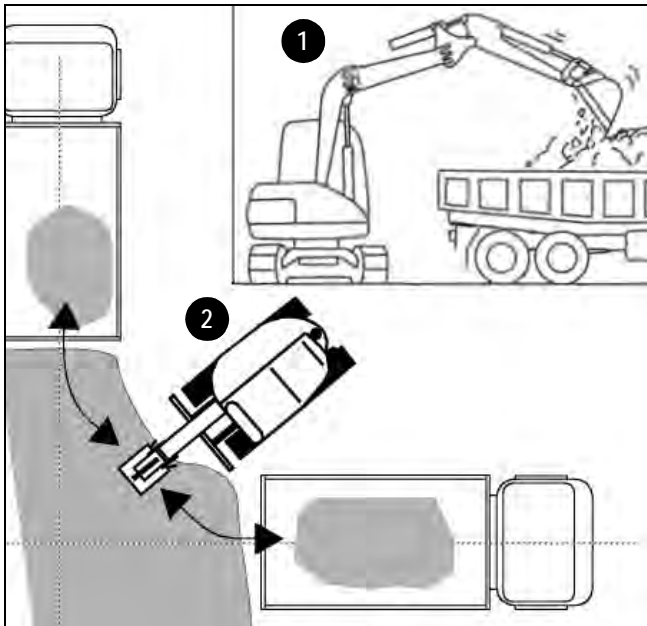

Figure 3-53 Loading Vehicles
- When work conditions permit, position the truck so the excavator can load material at the rear of the truck instead of the sides (1, Figure 3-53). The most effective way to load into the rear of the truck is when the truck and excavator form a 45° angle (2, Figure 3-53).